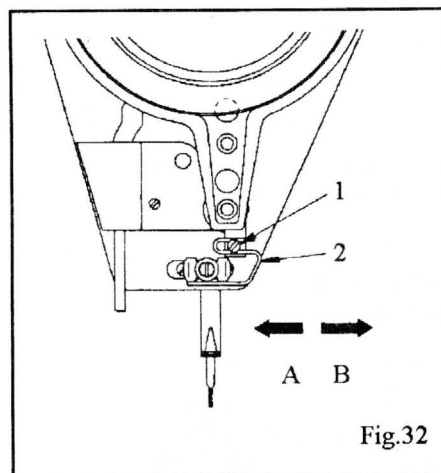

Fig.32
To adjust the length of thread end remaining in the needle eye, loosen screw (1), Fig. 32, and move face plate thread puller (2), as required.